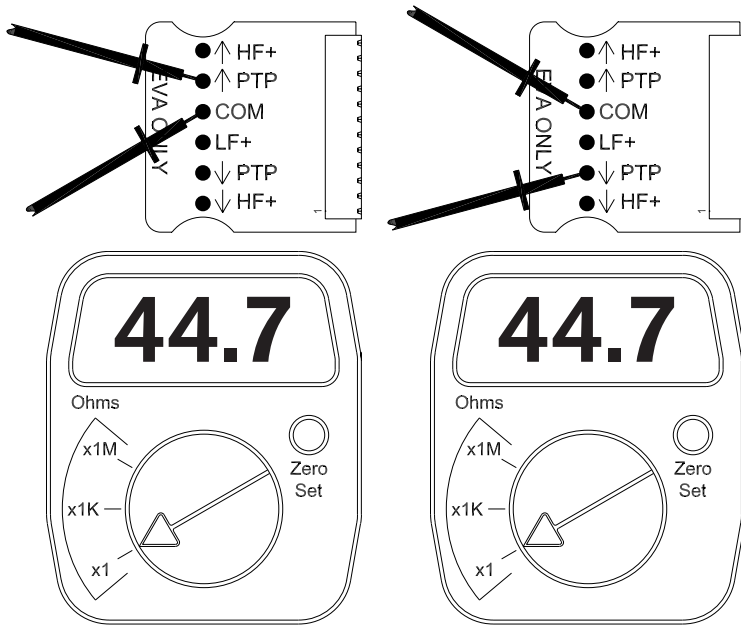

Figure 8a:
- Test the PTP (Power Tracking Protection) networks: Test the PTP network for the UPPER compression driver pair by placing one test lead securely on the UPPER GREEN test point and the other on the BLACK (common) test point on the Access Card. A properly functioning PTP will read no more than 46 ohms (See Figure 8a). If the reading is higher, replace the SK-3 lamps on the crossover PCB. To test the PTP network for the LOWER compression driver pair, repeat the above test using the LOWER GREEN test point (See Figure 8b).